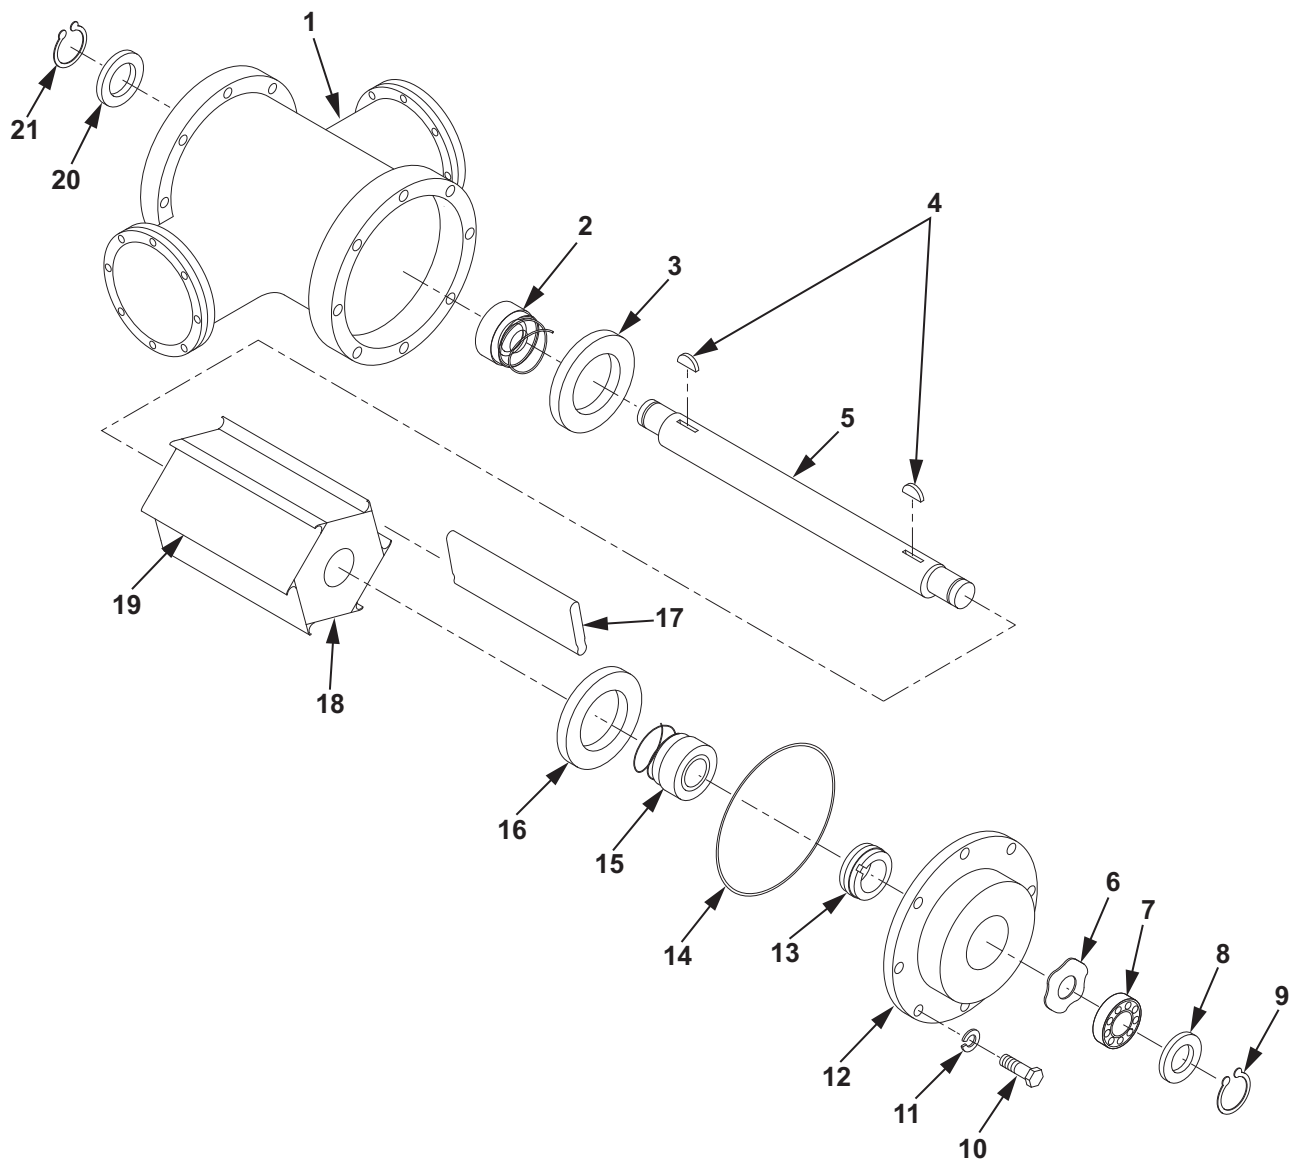

Figure 4. Fuel Additive Injection Pump Bearing Housing Assembly.
1. Lightly coat wear ring (Figure 4, Item 3) with petrolatum and install on shaft (Figure 4, Item 5).
2. Install mechanical (carbon) seal (Figure 4, Item 2) on shaft (Figure 4, Item 5).
3. Install shaft (Figure 4, Item 5) in fuel additive injection pump fluid motor housing (Figure 4, Item 1).
4. Install thrust washer (Figure 4, Item 20) on shaft (Figure 4, Item 5).
5. Using retaining ring pliers, install snap ring (Figure 4, Item 21) on shaft (Figure 4, Item 5).
6. Install two keys (Figure 4, Item 4) on shaft (Figure 4, Item 5).
7. Install rotor (Figure 4, Item 9) in fuel additive injection pump fluid motor housing (Figure 4, Item 1).
8. Lightly coat wear ring (Figure 4, Item 16) with petrolatum and install on shaft (Figure 4, Item 5).
9. Install mechanical (carbon) seal (Figure 4, Item 15) on shaft (Figure 4, Item 5).
10. Install six teflon vanes (Figure 4, Item 17) in vane sockets (Figure 4, Item 18).
11. Lightly coat inside O-ring of ceramic seal (Figure 4, Item 13) with petrolatum and install in end plate (Figure 4, Item 12).
12. Install spring washer (Figure 4, Item 6) and bearing (Figure 4, Item 7) in end plate (Figure 4, Item 12).
13. Install new O-ring (Figure 4, Item 14) in groove of fuel additive injection pump fluid motor housing (Figure 4, Item 1).
14. While supporting end plate (Figure 4, Item 12) evenly with both hands, carefully install end plate (Figure 4, Item 12) onto fuel additive injection pump fluid motor housing (Figure 4, Item 1).
15. Install eight new lockwashers (Figure 4, Item 11) and screws (Figure 4, Item 10) on end plate (Figure 4, Item 12). Tighten screws (Figure 4, Item 10).
16. Install thrust washer (Figure 4, Item 8) on shaft (Figure 4, Item 5).
17. Using retaining ring pliers, install snap ring (Figure 4, Item 9) on shaft (Figure 4, Item 5).